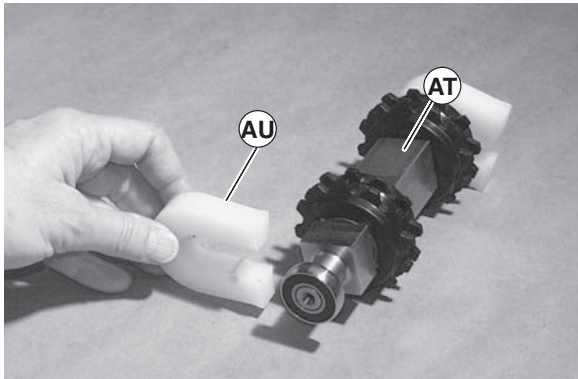

Figure 30
2. Slide idler end guard (Figure 30, item AU) from ends of pulley (AT).